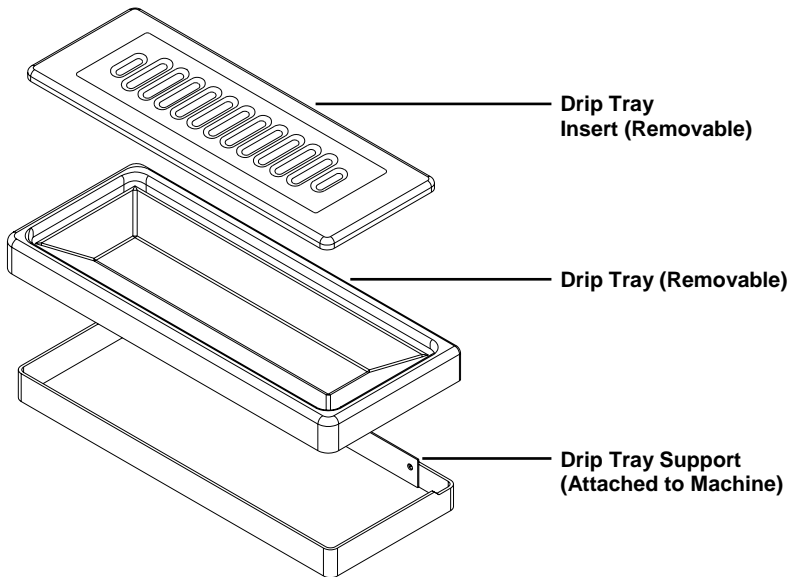

Fig. 11
5. Install the drip tray and drip tray insert (Fig. 11) into the drip tray support mounted to the machine.